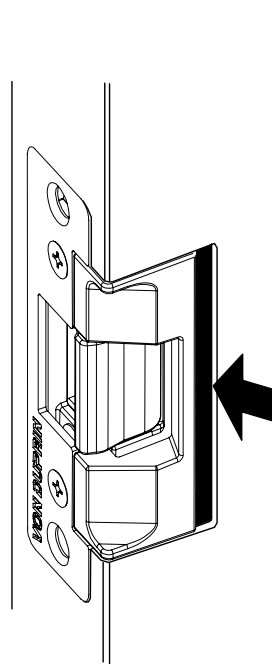
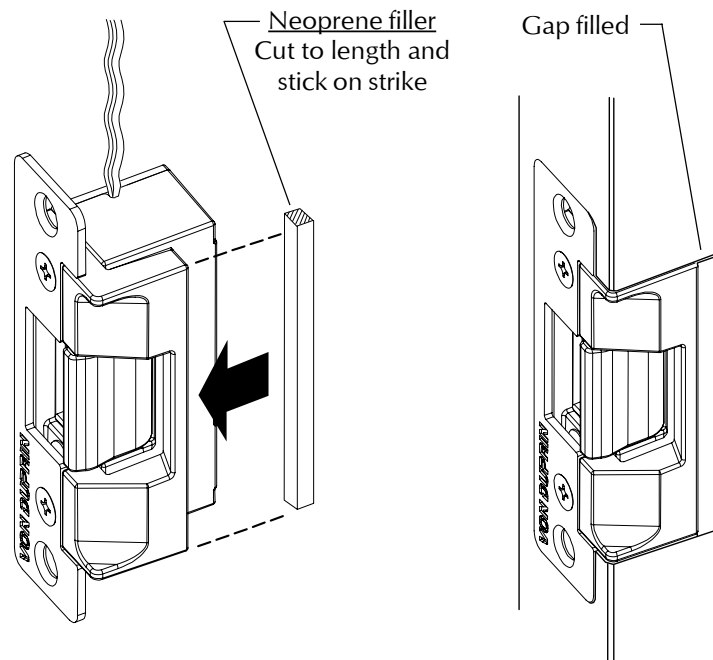

Figure 6
Figure 7
8. Test strike: Apply solenoid power. Fail secure (FSE) lip unlocks. Fail safe (FS) lip locks.
9. If cut-out for strike is too large along edge (Figure 6), cut neoprene filler and stick onto strike as shown (Figure 7). Note: This could occur in some retrofit applications.